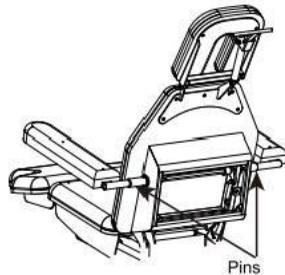

Figure 11
- Insert the rods on the armrests into the round tubes on both sides of the backrest section. Rotate and fix the pins on the rods into the slots of the round tubes (Figure 11).